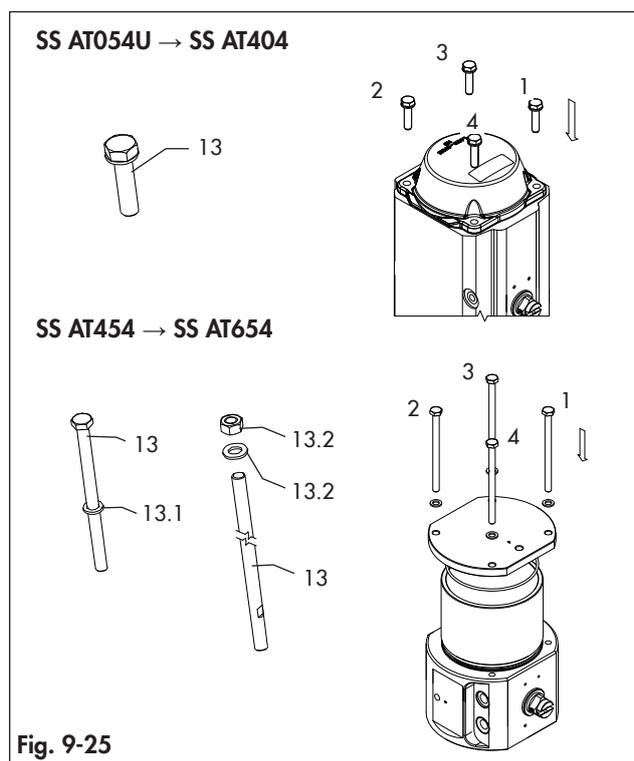

Fig. 9-25
- Place the actuator in vertical position as per Fig. 9-25.
- Lubricate the thread of the end cap screws/tie rods (13) with an anti-seize paste.
- Fix the end cap (30) fastening partially the cap screws (13) and nuts (13.2) 1 turn at a time following the sequence shown in Fig 9-25 along with the washer (13.1) if any.
- Observe the specified sequence shown in Fig. 9-25.
- Complete the fastening of the cap screws (13) or nuts (13.2) tightening 1 turn at a time for each screw in the sequence shown in Fig. 9-25.